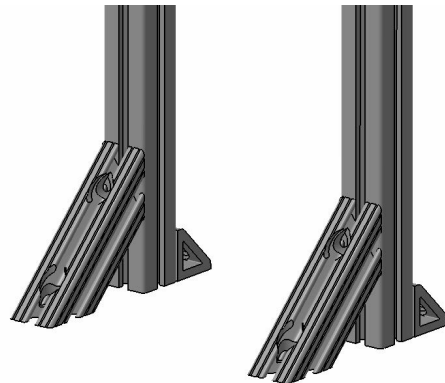

Fig. 4.12: Bottom side of the stand
- ❑ Repeat the last step with the second T-slotted beam 4' (#HJXQ) in the back of the beam, as shown in Fig. 4.12.
- ❑ On the opposite side of the gusset brackets, join the 6" diagonal beams (#QFGJ) in the T-slotted single frames 4' (#HJXQ) with the screws and T-nuts, as shown in Fig. 4.12. Leave the other end of the diagonal beams free for future purposes.